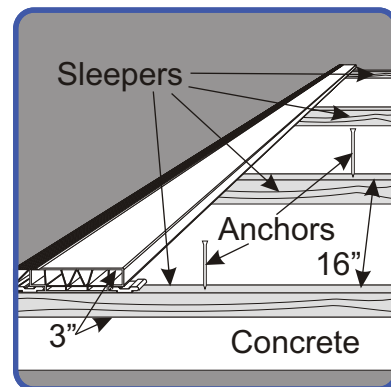

Figure 13
Step 1. Anchor 2" • 2" pressure treated wood sleepers to the concrete surface using hammer anchors or masonry screws (see Figure 13). The sleepers perform a similar function to elevated deck joists and should be spaced 16" on center. If using masonry screws, countersink the screws flush with the top of the sleepers.